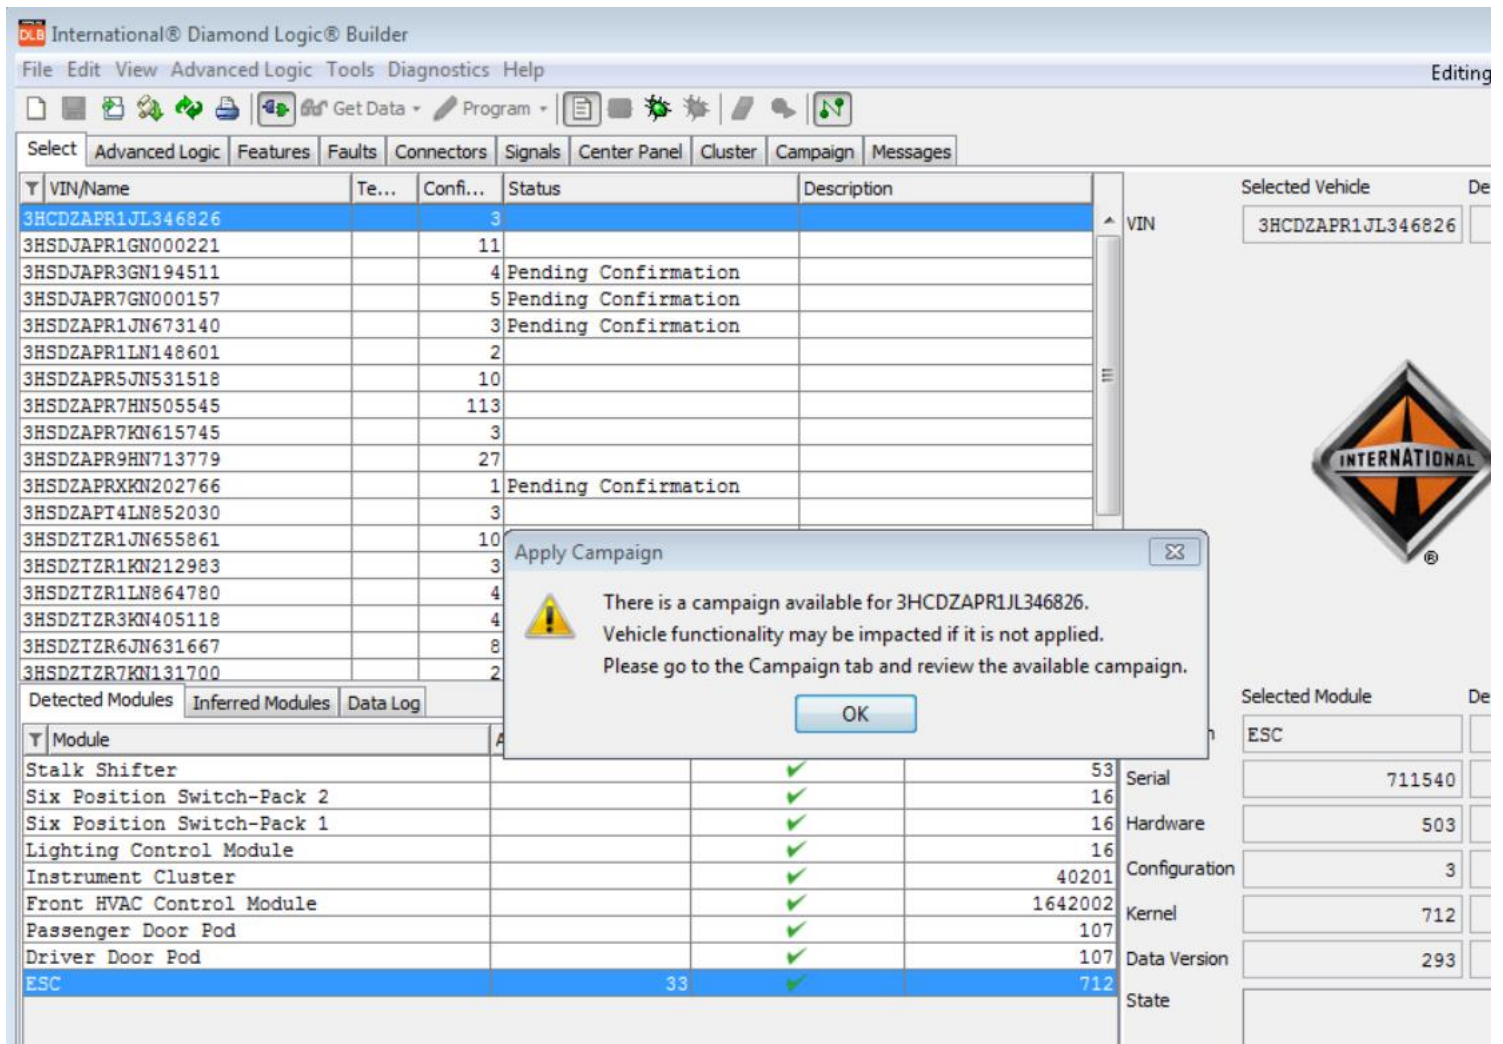

Figure 2: Campaign vin alert
9. Once DLB has been opened under the vin an alert (figure 2) will populate requesting the user to go to the campaign tab and review the available Efix.